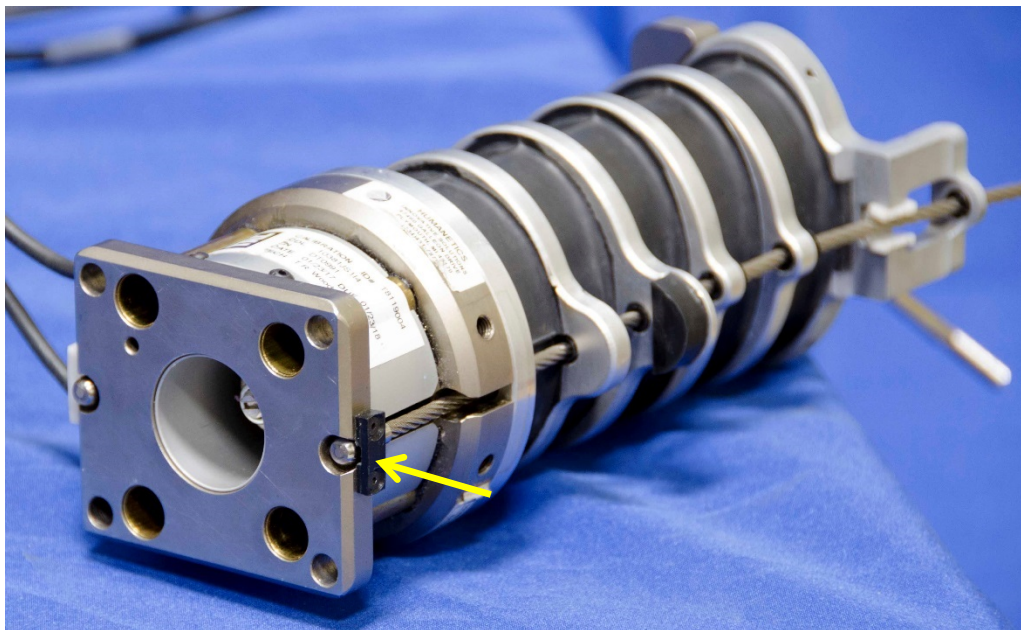

Figure 4-15. Install neck cable seat covers
4.2.2.6 The ball end of each cable rests in the base of the lower neck load cell and is secured with a Neck Cable Seat Cover (472-2015) and two M2 x 0.4 x 6 FHCS on the front and rear load cell base faces (Figure 4-15). Orient the recessed area on the cover inwards to accommodate the ball end of the cable.